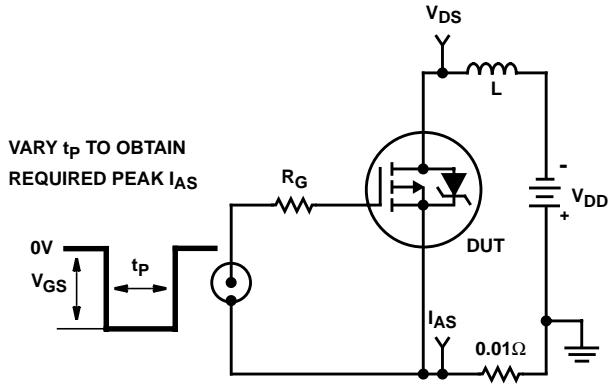

FIGURE 15. UNCLAMPED ENERGY TEST CIRCUIT
4.  $V_{DD} = 50\text{V}$ , starting  $T_J = 25^\circ\text{C}$ ,  $L = 35.5\text{mH}$ ,  $R_G = 25\Omega$ , peak  $I_{AS} = 3.5\text{A}$  (Figures 15, 16).